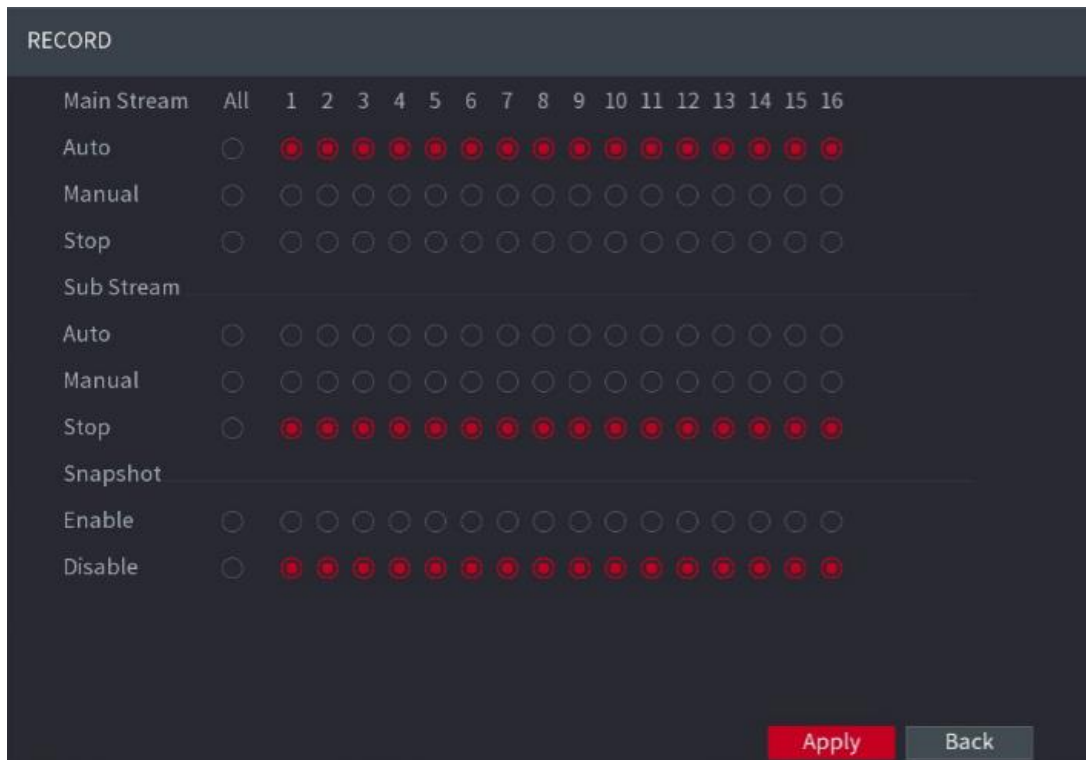

Figure 5-85
**Step 1** Right-click on the live view screen, the shortcut menu is displayed. On the shortcut menu, select **Manual** → **Record Control**. The **RECORD** interface is displayed, see Figure 5-85.